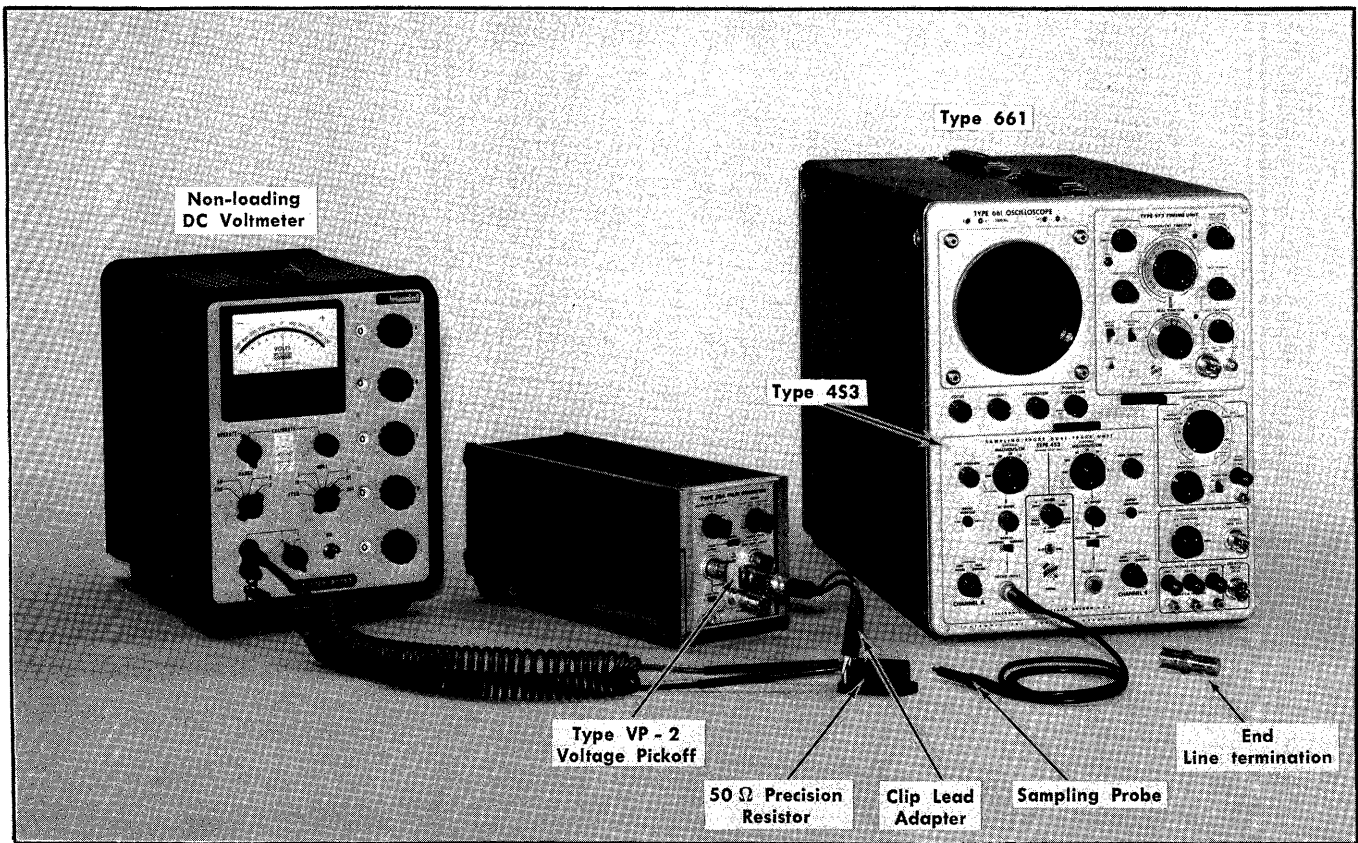
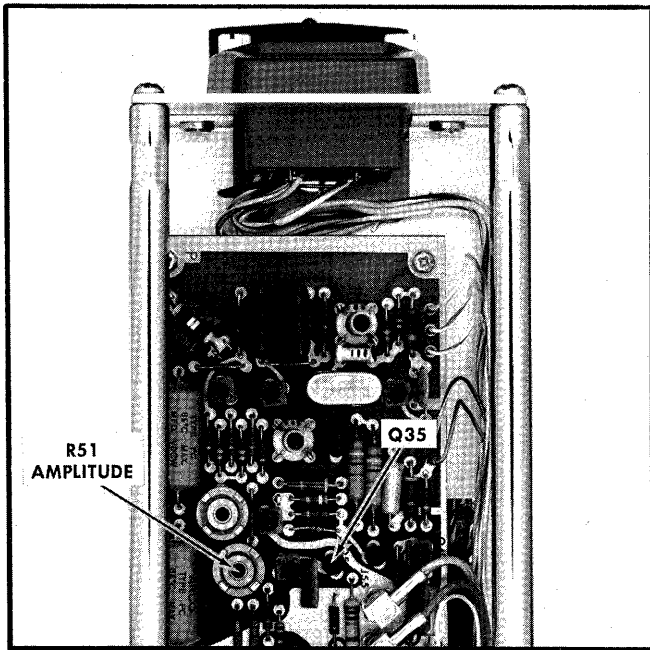

Fig. 6-6. Initial setup of test equipment used in step 4.
Fig. 6-7. Locations of adjustments in step 4.
**4. Adjust Square Wave Amplitude, R51** ①
- a. Use equipment setup shown in Fig. 6-6.
- b. Connect the 50  $\Omega$  resistor, (item 21 on equipment required list) by a BNC clip lead adapter through a BNC to GR adapter and a voltage pickoff VP-2 to the SQUARE WAVE OR SINE WAVE OUTPUT connector on the Type 284. Connect the precision voltmeter (item 2 in equipment list) across the resistor. If you use a precision resistor with a single coaxial connector a Tee connector can be used.
- c. Remove Q35 from its socket (see Fig. 6-7 for location).